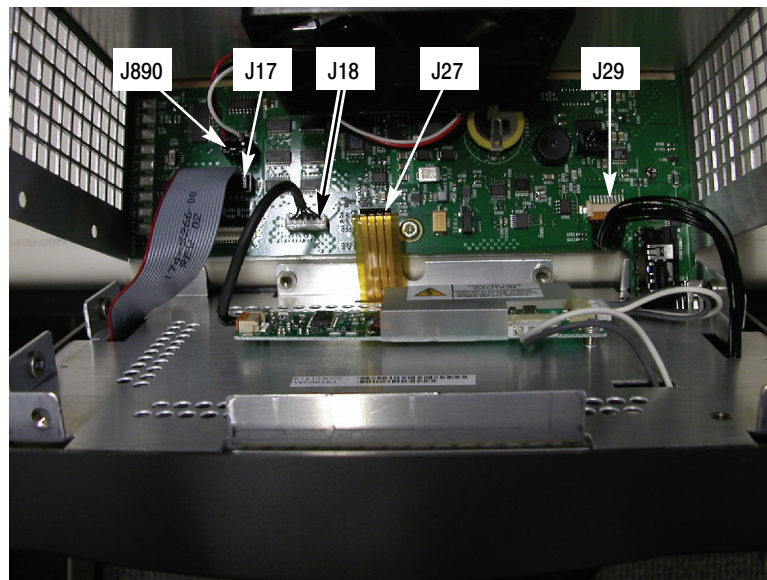

Figure 3: Old front panel cable connections
3. Disconnect the fan cable from J890 (see Figure 3) by depressing the latch on the connector and pulling it up.
3. Disconnect the touch panel cable (orange) connected to J27 on the main board (see Figure 3).
4. Disconnect the cables connecting the front panel/LCD assembly to the main board at J17, J18, and J29 (see Figure 3).